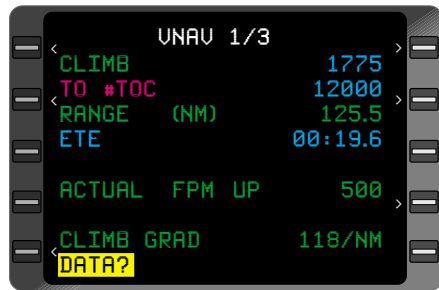

Figure 3-140
4. **ENTER** Key - DEPRESS and observe the change in **RANGE** and **ETE**. (Figure 3-140)